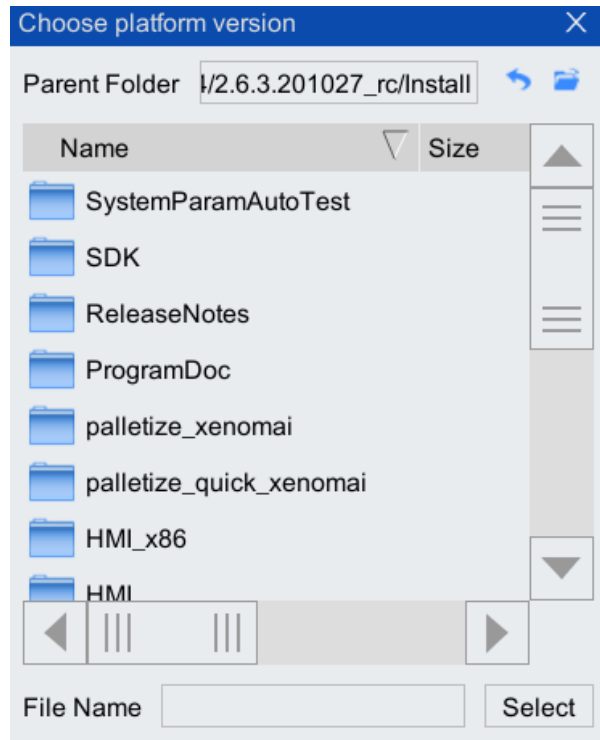
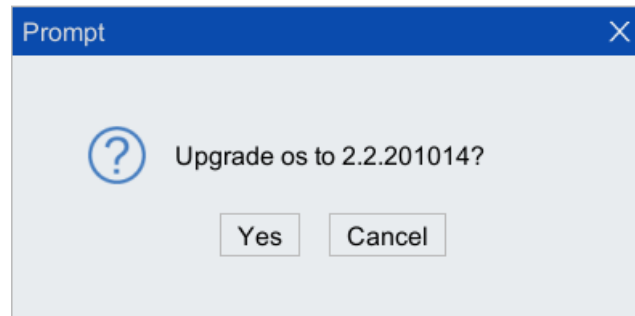

Figure 8-54 "Please select upgrade file"list box
Figure 8-56 "Upgrade os to \*\*?" prompt dialog box
Step2.Switch the path from Figure 8-54 to the path where the platform upgrade file is located, select the platform upgrade file, click the <Select> button, and the "Upgrade os to \*\*?" prompt dialog box shown in Figure 8-56 will pop up, Click the <Yes> button.